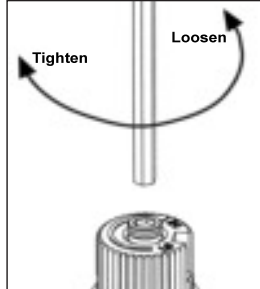

Figure 15: Removing Valve Screw
- Remove the conversion screw using a 5/32 inch or 4mm Allen key (see Figure 15).